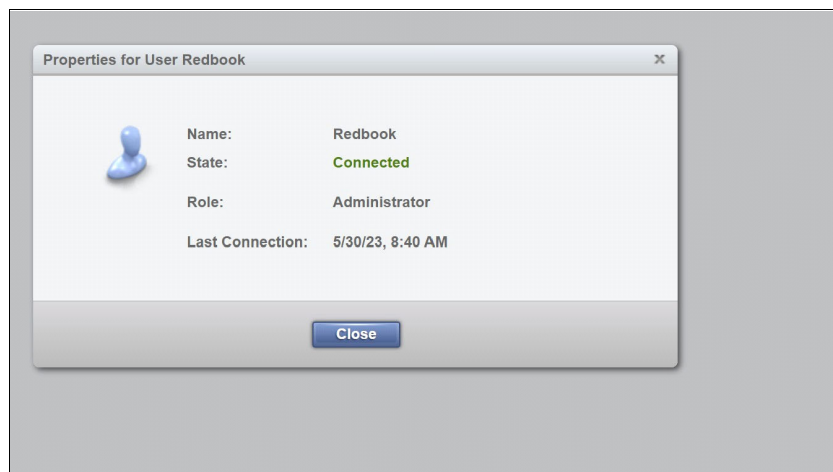

Figure 5-102 User properties
- ▶ **Properties.** This option displays the properties of the user, the state of the user, and the user's last connection, as shown in Figure 5-102.